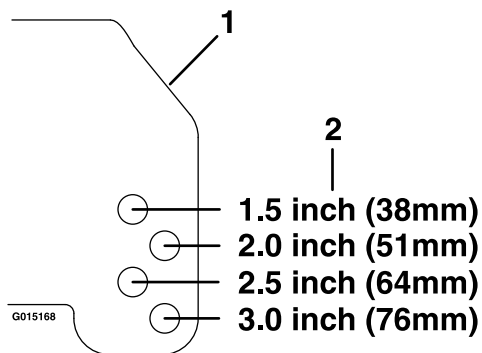

Figure 18
3. Adjust the anti-scalp rollers for the normal operating conditions. Place rollers in one of the positions shown in Figure 18. Rollers will maintain 3/4 inches (19 mm) clearance to the ground to minimize gouging and roller wear or damage.